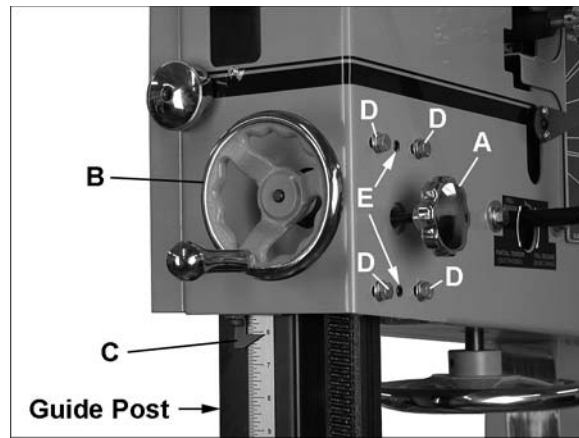

Figure 34
Refer to Figure 34.
4. Loosen the lock handle (A, Figure 34) and raise the guide post to a high position.
6. If the guide post does not go straight up and down (the blade begins deflecting when the guide post is raised), slightly loosen the four hex cap screws (D, Figure 34).
7. Left and right adjustment is accomplished using a combination of the four hex cap screws (D); forward/back adjustment is accomplished using the two set screws (E).
8. When finished adjusting, securely tighten the four hex cap screws (D).